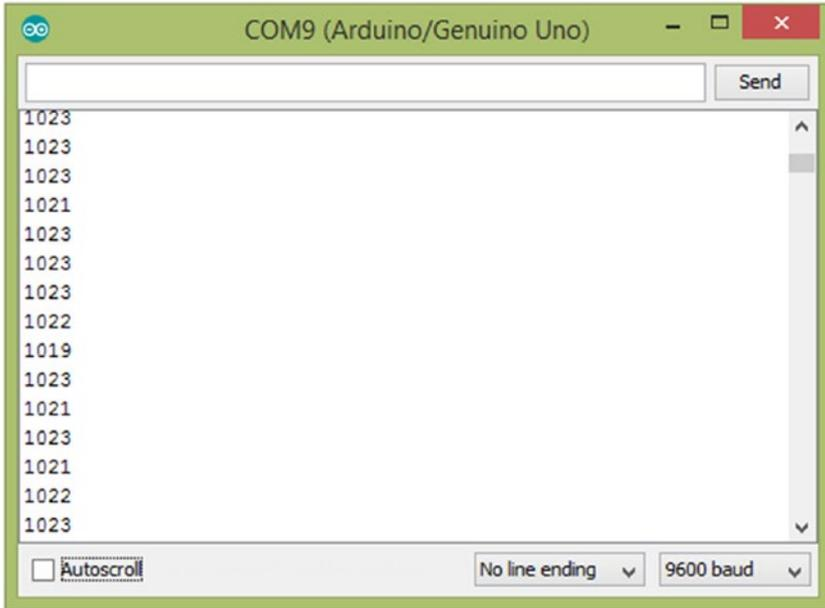

Figure 2-23. *Arduino Serial Monitor*
- Open the **Serial Monitor** by choosing **Tools** ► **Serial Monitor**. The Serial Monitor will open in a new window (Figure 2-23) and display the current value of the analog pin A0. The output will continuously scroll until you disable the **Autoscroll** option by deselecting the checkbox. The output value is between 0 to 1023, so it is a fraction of 5V. Actually, you can calculate the current voltage on the analog pin by using this value. Use the following formula to calculate the voltage.